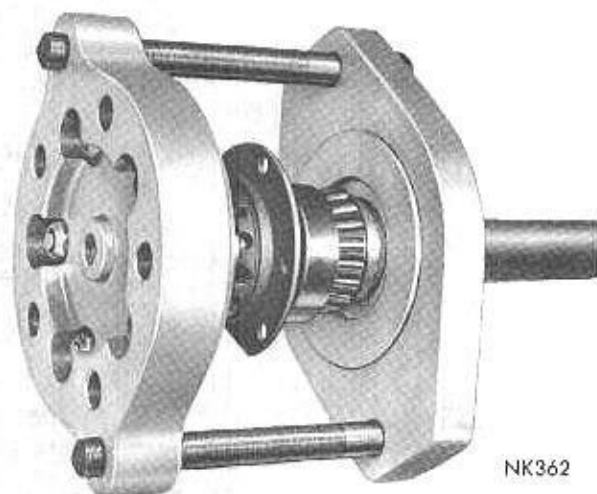

Fig. 13—Installing New Bearing And Collar
(2) Lubricate wheel bearings with Multi-Purpose Grease NLGI, grade 2 E.P. or an equivalent.
(3) Install a new axle shaft bearing cup, cone and collar on shaft using Tool C-3971 (Fig. 13) and tighten bolts of tool alternately until bearing and collar are seated properly.